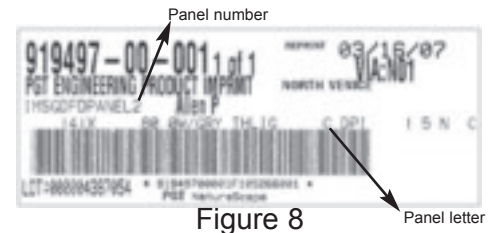

Figure 8
1. Shipping labels on panels will have the panel # and letter name on them; they will be installed in order from left to right. Please see the configuration page for the proper track the panel goes onto. (See Figure 8)